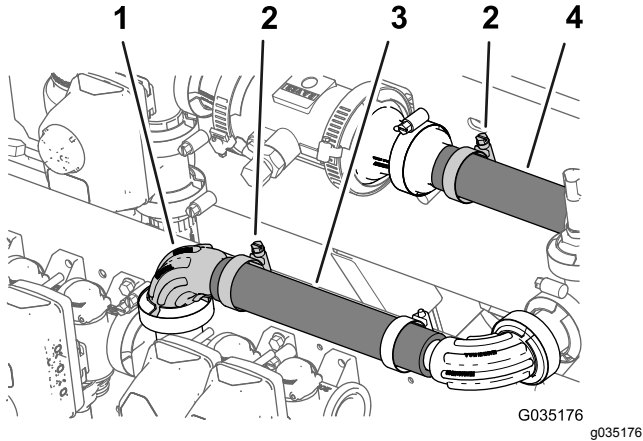

Figure 64
- Assemble the hose (1 x 8-1/2 inches) over the 90° flange fitting (1 inch) as shown in Figure 64.
- Secure the hose to the flange fitting with a hose clamp (Figure 64).
- Tighten the hose clamp that secures the hose (1 x 7-1/4 inches) to the barbed-flange fitting (1 inch) that you assembled in Installing the Pressure Transducer onto the Machine \(page 28\); refer to Figure 64.